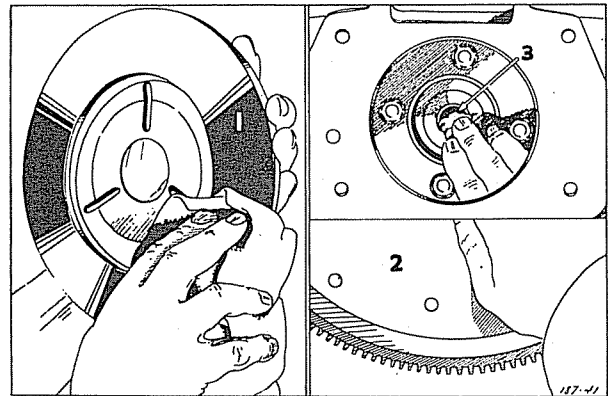

Fig. 4—Lubricating Pilot Bushing.
- (1) Coat the main drive pinion pilot bushing in the end of the crankshaft and insert half teaspoon in the reservoir at the back of the pilot bushing with short fibre wheel bearing grease medium. (See Figure 4).
- (2) Clean the surfaces of the flywheel and pressure plate thoroughly, making certain that no oil or grease remains on these parts.